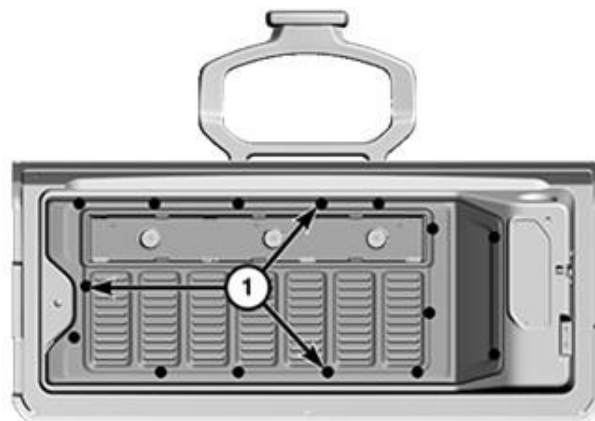

Figure 3 – Trim Panel
8. Using a Trim Remover C-4829A or equivalent, release the trim panel retaining fasteners (1) (Figure 3).
27. Secure all the trim panel retaining fasteners (1) (Figure 3).